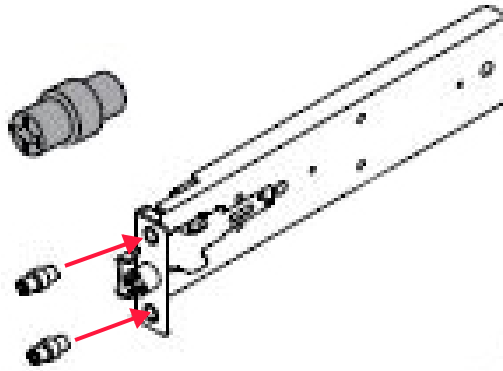

Figure 2.10 Installing 7.1-inch screws
2. Install the eight 7.1mm screws (used for racks with round post holes): two on each of the brackets on the front and rear outer cabinet member rail as demonstrated in Figure 2.10 on page 17.